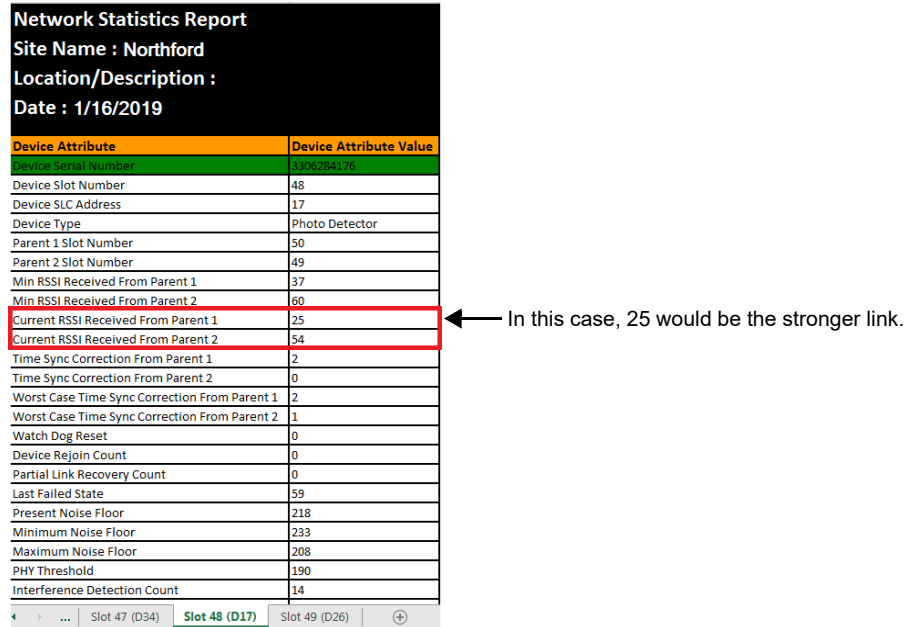

Figure 2.23 Review Network Statistics
**NOTE:** Signal strength is represented using negative numbers. So, 30 is 20 dB stronger than 50. Refer for Figure 2.23 for an example.